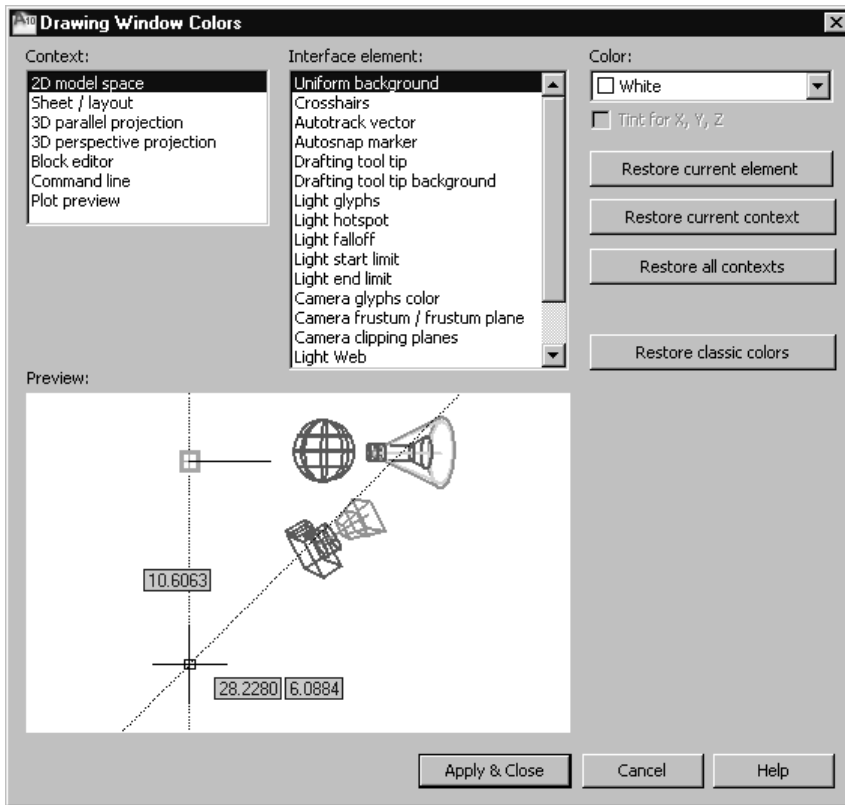

Figure 2-60 The Drawing Window Colors dialog box
4. Choose the **Display** tab and then choose the **Colors** button; the **Drawing Window Colors** dialog box is displayed. Select the **2D model space** in the **Context** area and **Uniform background** in the **Interface element** area. Select **White** from the **Color** drop-down list, see Figure 2-60. This changes the color of the model tab background to white. Choose the **Apply & Close** button to return to the **Options** dialog box. Notice that the screen color changes to white.